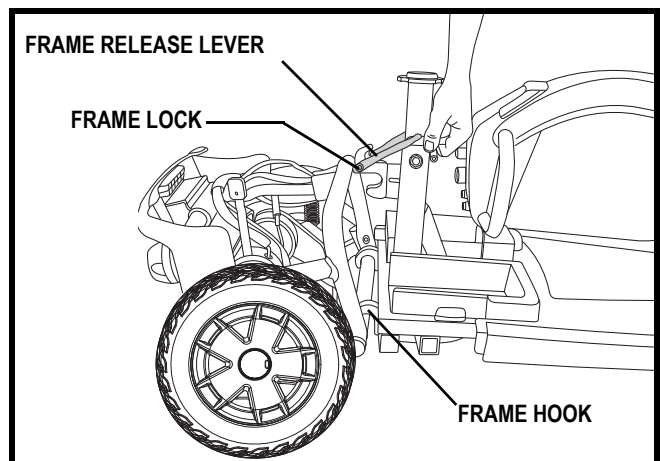

Figure 23. Frame Release
1. Lift up on the frame release lever. See figure 23.
2. Lift the front section up until the frame hooks of the front section separate from the rear section. See figure 23.
2. Use the frame release lever to lift the front section as you align the frame hooks of the front section with the lower frame tube of the rear section. See figure 23.